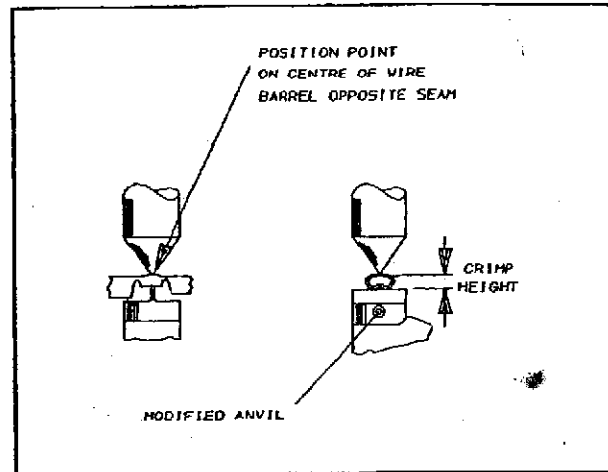

Fig.2-2
This inspection requires the use of a micrometer with a modified anvil as shown in Figure.2-2.We recommend the modified micrometer [Crimp height comparator 2-576692-0] from;
3. Using a crimp height comparator measure wire barrel crimp height as shown in Figure 2-2.If the crimp height conforms to that shown in the APPLICATION SPEC,the tool is considered dimensionally correct.If not return the tool to AMP for evaluation and repair (see para 2-3 REPAIR)